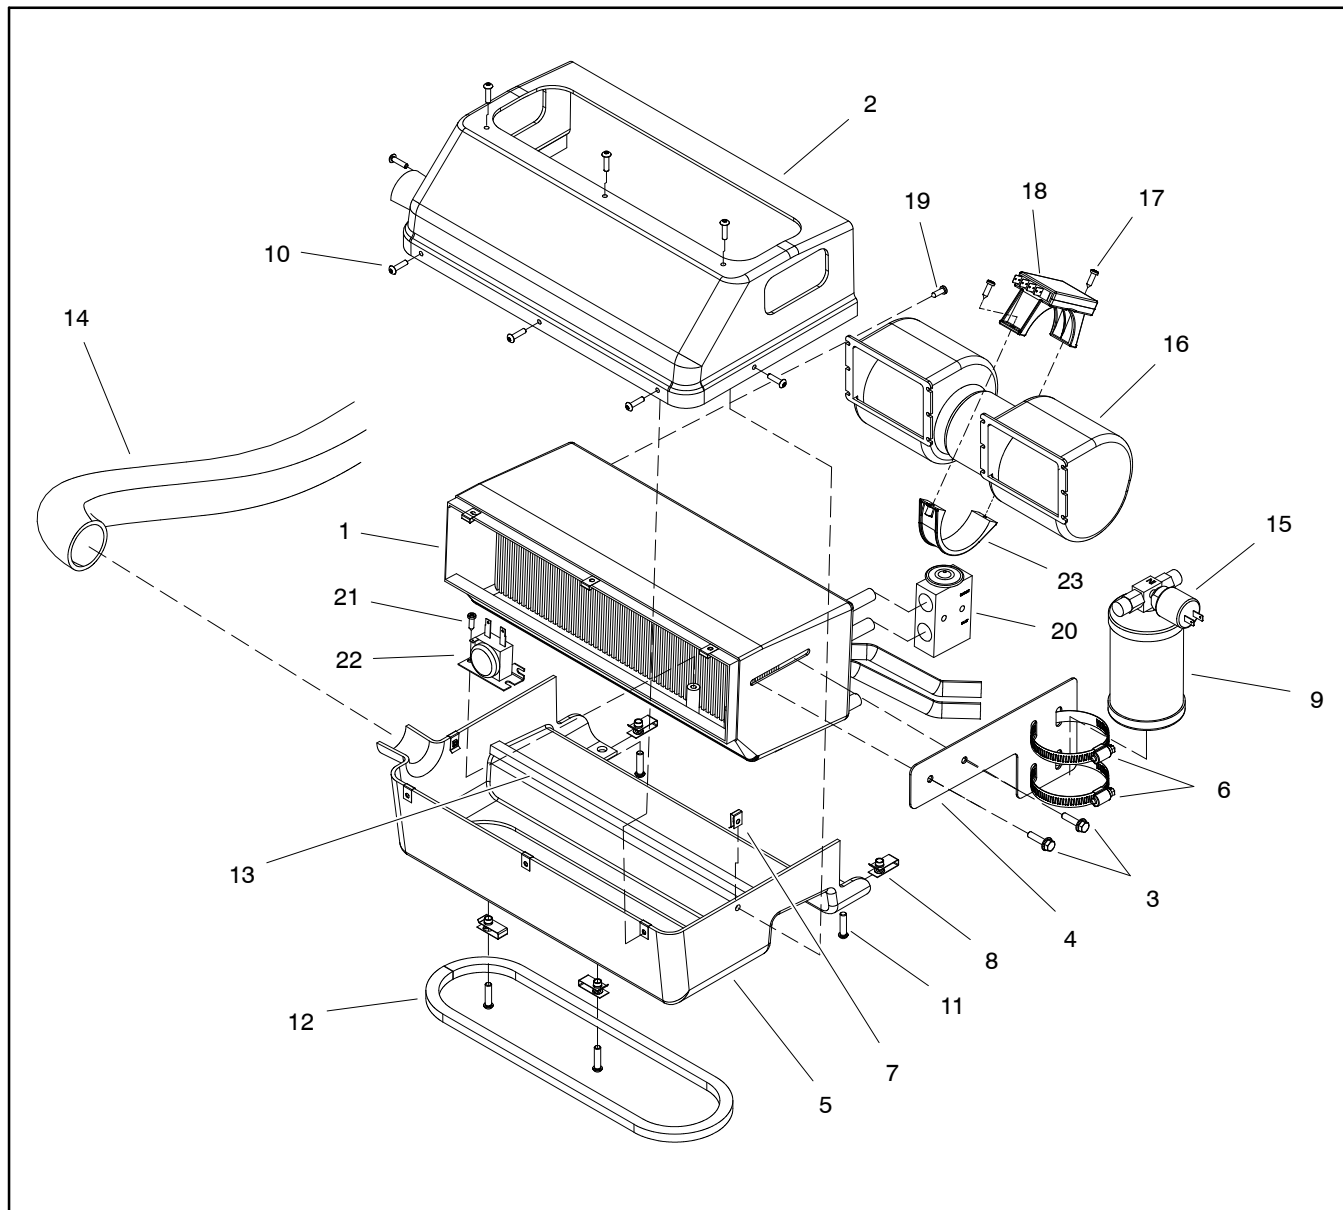

Figure 7
### Removal (Fig. 7)
9. Disassemble heater/evaporator assembly using Fig. 7 as a guide.
### Installation (Fig. 7)
1. Assemble heater/evaporator assembly using Fig. 7 as a guide. Make sure that expansion valve is covered with insulating tape to prevent condensation issues. Also, make sure that evaporator fins are clean for best performance.